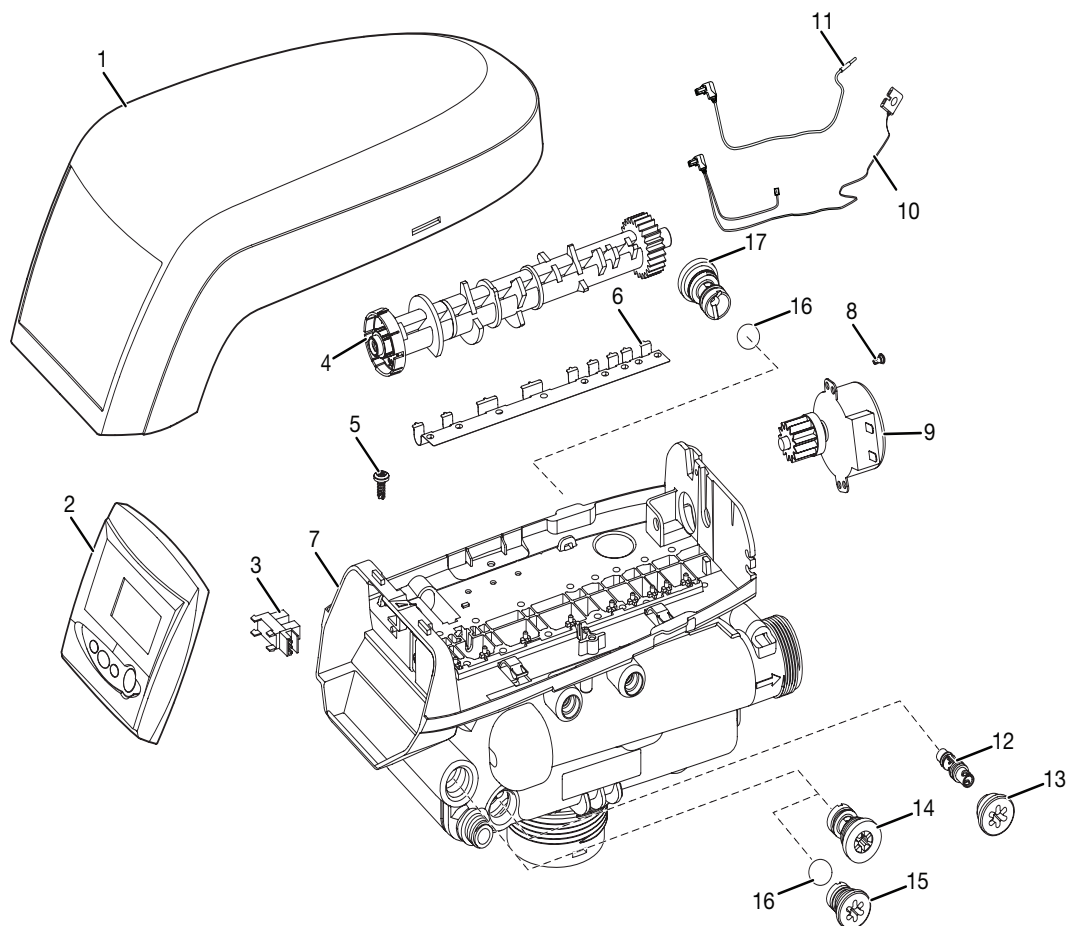

Figure 35
2. Disconnect power by releasing clip on left back of controller, remove, (Item 2) then unplug power cord. See Figure 35.
3. Remove (Item 8) Plastic Rivet holding (Item 9) Motor Assembly to (Item 7) top plate. See Figure 35.